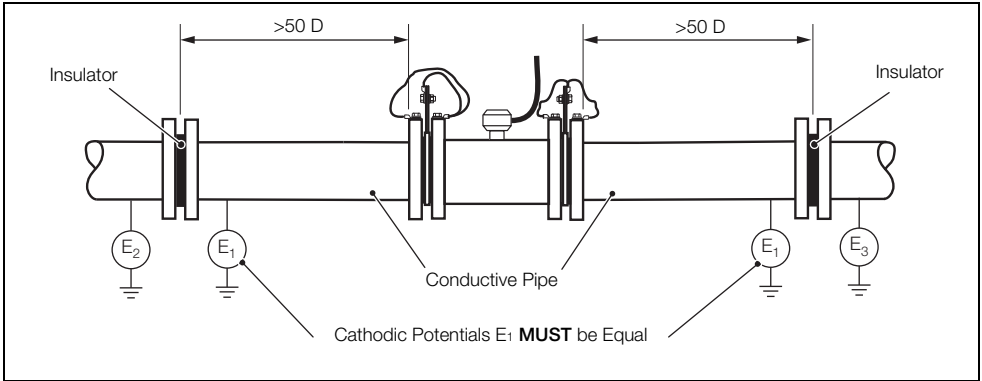

Fig. 3.4 Cathodic Protected Installations with Different Cathodic Potential Generators
**Note.** The grounding arrangement shown in Fig. 3.4 is applicable only to:
**Note.** Refer to Section Fig. 3.4, page 25 for MODBUS connection.